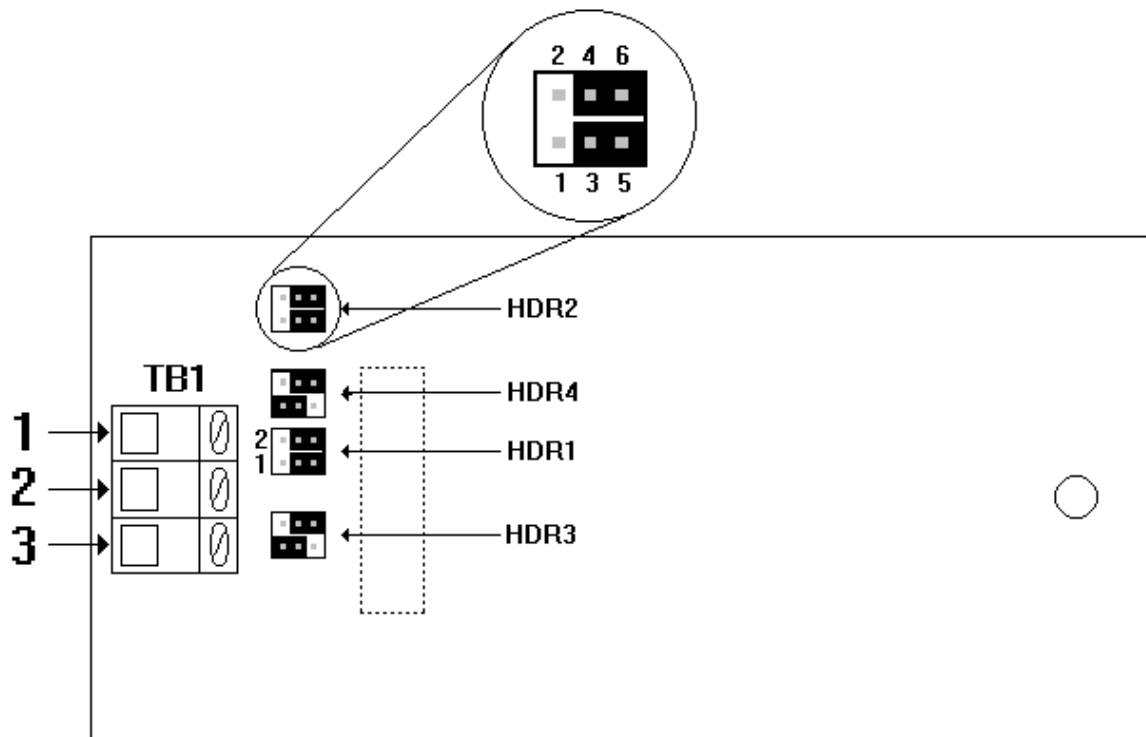

Figure 4. AO-12B2 Circuit Card Layout
7. Adjustments. The type of output that the AO-12B2 card will produce is selected with several different jumpers. Refer to Table 4 and Figure 4 to select the appropriate output type. NOTE: The variable resistors VR1, VR2, VR3, and VR4 are factory set and require no adjustment.